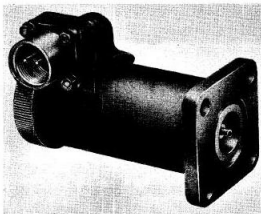

Fig. 1. General view of solenoid
2. Solenoids, Type D.7203 and Type D.7204, differ only in the direction of the terminal plug. When viewed from the end cap, the plug points in an anti-clockwise direction for Type D.7203, and in a clockwise direction for Type D.7204 (this type being illustrated in *fig. 1*).